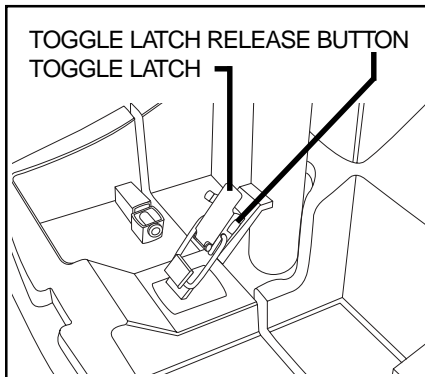

Figure 18. Toggle Latch (Latched)
1. Push in the toggle latch release button while pulling back the toggle latch. See figures 18 and 18A.
5. Secure the toggle latch. See figure 18.